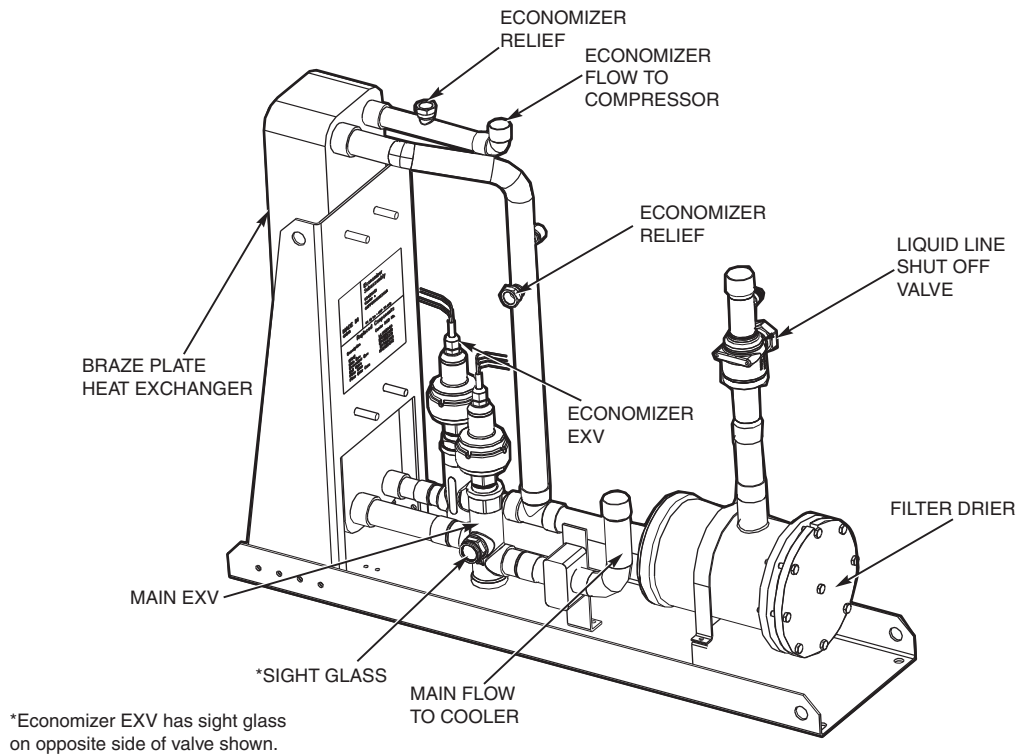

**Fig. 48 — Economizer Assembly**
**Economizer Assembly** — Each circuit on the unit has an economizer assembly, which includes a brazed plate heat exchanger, electronic expansion valves (EXVs), and other components. See Fig. 48.